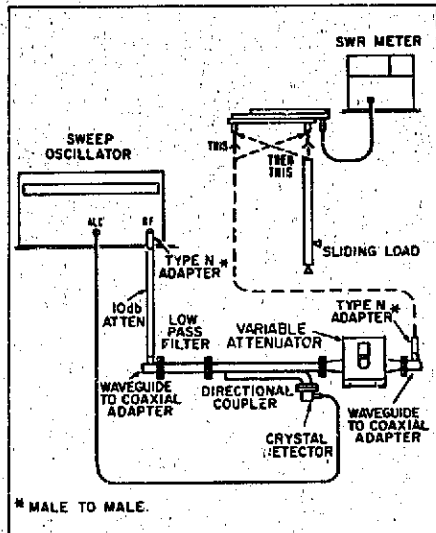

Figure 11. Directivity Check
a. Set up equipment as shown in Figure 11.